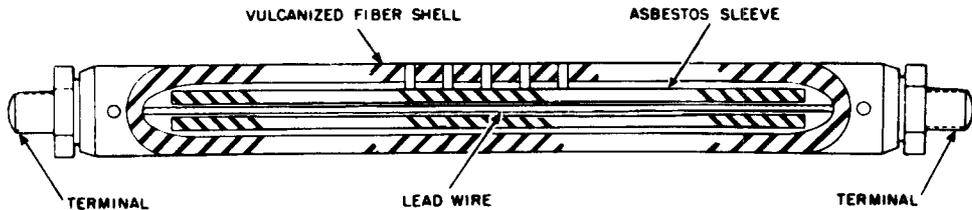

Fig. 33—11-Type Station Line Fuse
5.02 The 106C protector consists of a base of nonconductive material containing five binding posts, two 11C fuses (Fig. 33), and two 2A1A protector units.